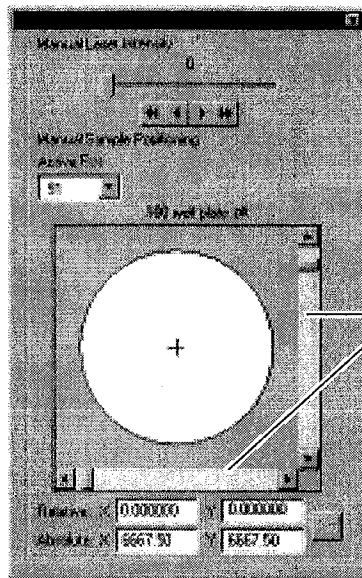

Figure 4-6 Manual Laser/Sample Positioning Control Page (Sample View)
3. From the Sample Plate menu, select **Sample View** to display an expanded view of the selected sample position (Figure 4-6).
- Click-drag scroll bars in the Sample View of Manual Laser/Sample Positioning control page (see Figure 4-6 on page 4-8)